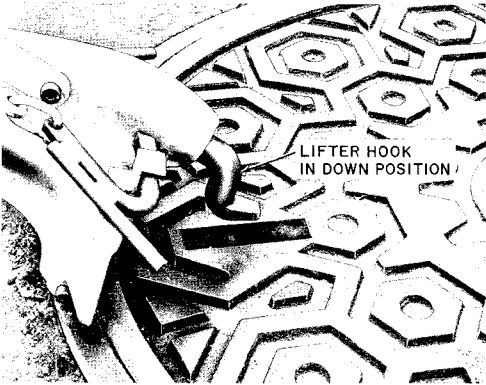
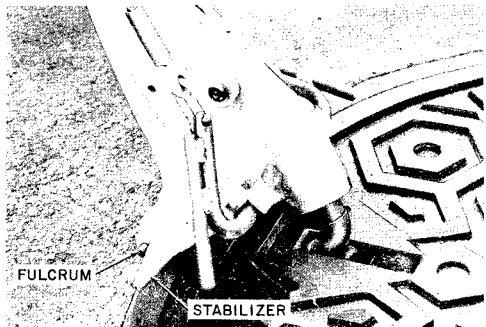

Fig. 17—Lifter Hook Ready to Insert in Lifter Pocket
Fig. 18—Manhole Cover Lifter in Position to Lift Cover
- (1) Clean the lifter pocket as described in paragraph 5.05 (1).
- (2) Rotate the lifter hook to its down position (Fig. 17). Hold the lifter in a vertical position and insert the hook into the lifter pocket. Lower the lifter handle so the fulcrum rests on the top edge of the manhole frame (Fig. 18).